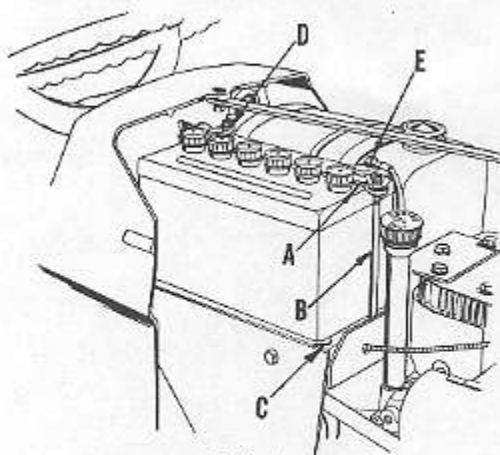

FIG. 4
- Slide battery into position with terminals to center of tractor as shown in Fig. 4.
- Hook the other battery bolt (B), into the front of the battery support (C). Assemble clamp (A), to bolt (B), with the remaining washer and wing nut as shown in Fig. 4. Tighten both wing nuts securely.
- Refer to Fig. 4. Connect starter switch cable (D), (red cover), to plus (+) terminal. Tighten nut securely. Nut shipped in plastic bag.
- Refer to Fig. 4. Connect ground cable (E), (black cover), to negative (-) terminal. Tighten nut securely. Nut shipped in plastic bag.